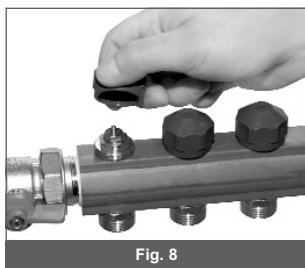

Fig. 8
1. Turn off the manual adjustment cap (Fig.8).